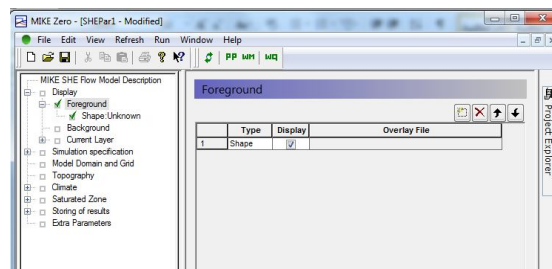

Figure 117: Adding a shape file
- Then click the “shape:Unknown” node in the explorer, by expanding the ‘Foreground’ node (See Figure 117).